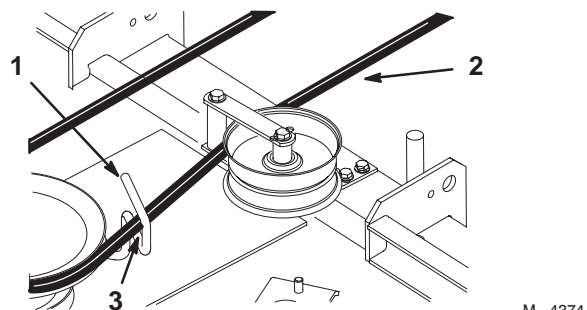

Figure 53
11. Rotate the belt guide, on rear of the mower, so it is 1/8"-1/4" (3-7 mm) away from the vertical side of the PTO belt (Fig. 53).